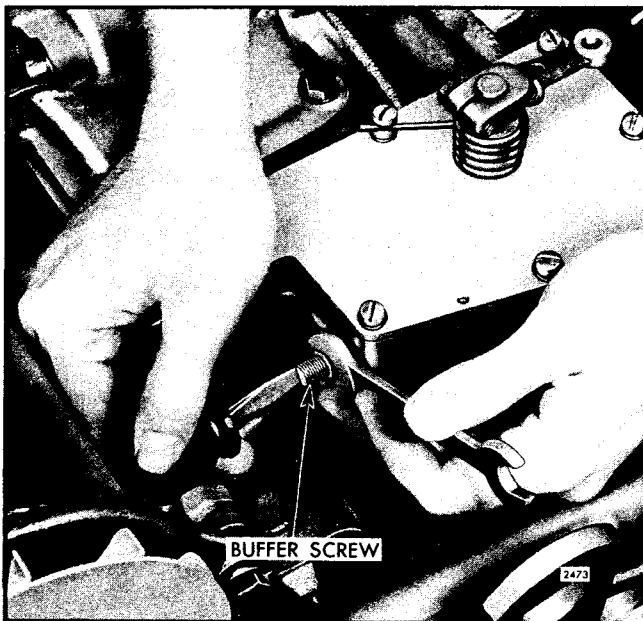

Fig. 6 - Adjusting Buffer Screw
1. With the engine running at normal operating temperatures, turn the buffer screw "in" (Fig. 6) so that it contacts the differential lever as lightly as possible and still eliminates engine roll.